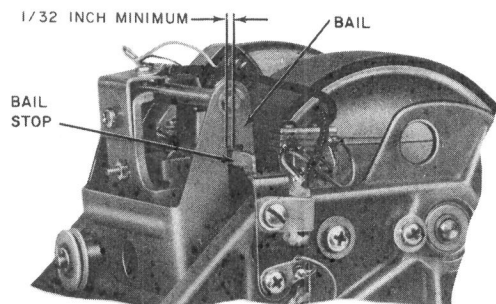

Fig. 15—Bail Stop Adjustment
**3.29 Bail Stop Position (Fig. 15):** With the magnetic head in the electrically operated position, the clearance between the side of the slot in the bail assembly and the side of the bail stop